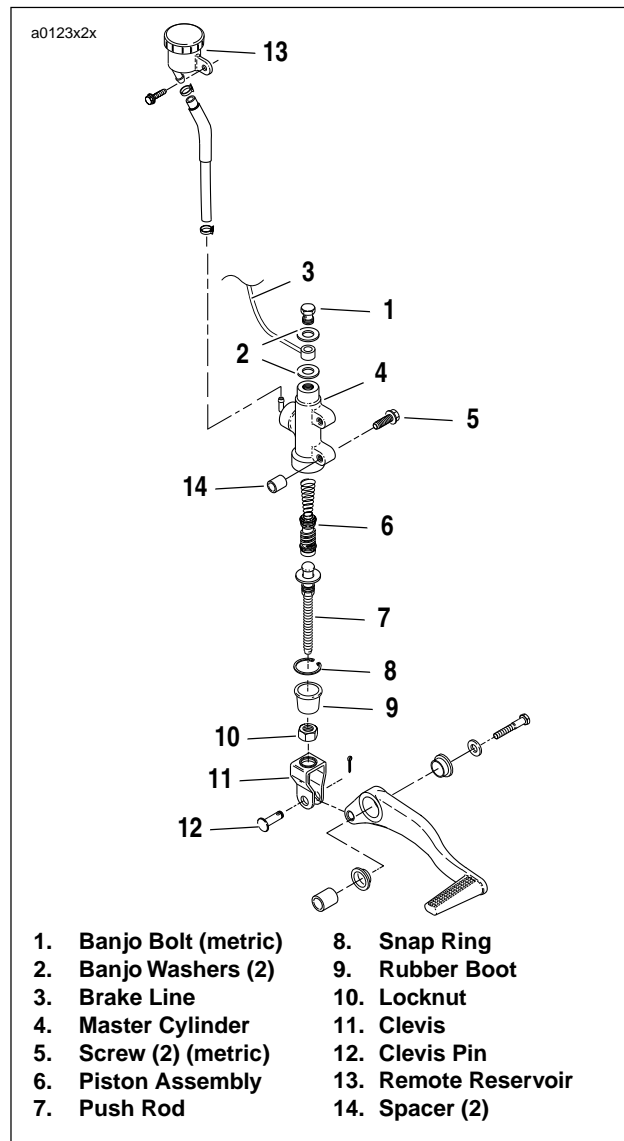

Figure 2-43. Rear Master Cylinder Assembly
2. See Figure 2-43. Remove banjo bolt (1) (metric) and two banjo washers (2) to detach brake line (3) from master cylinder (4). Discard banjo washers.
3. See Figure 2-43. Disconnect push rod from brake pedal clevis (11).
- a. Spin locknut (10) away from top surface of clevis.
- b. Turn rod adjuster (7) to free rod from clevis (11).
3. See Figure 2-43. Connect brake line (3) to master cylinder (4) with two **new** banjo washers (2) and banjo bolt (1) (metric). Tighten to 16-20 **ft-lbs** (21.7-27.1 Nm).